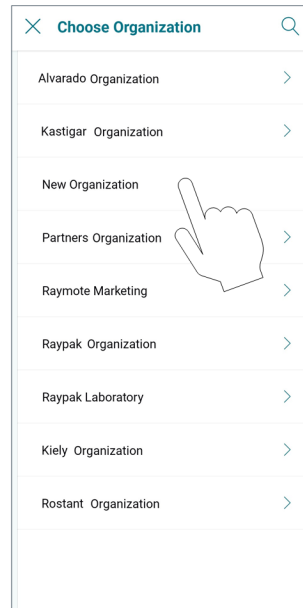

**Figure 134. User Menu**
1. Open the main menu by clicking the top left icon. See **Figure 134**.